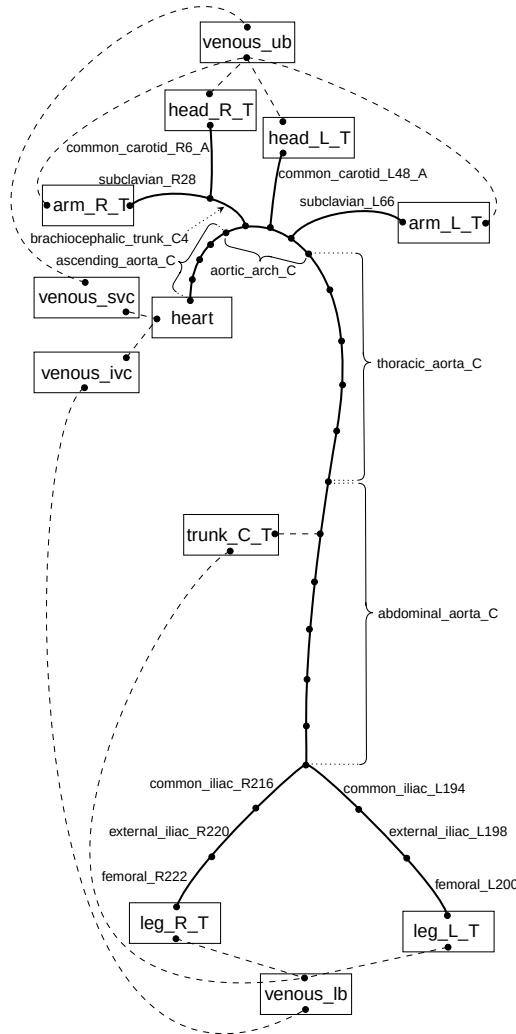

Figure 1: Schematic of the simple physiological CVS model.
- {CA\_user\_dir}/resources/simple\_physiological\_nonlinear\_visco\_vessel\_array.csv : This file defines the modules that are used and how they are connected together. Figure 1 shows the model that we will first generate.
**Figure 1.** A schematic representation of the Hernandez-Hernandez model. The components of the model include major ion channel currents shown in purple including the voltage-gated L-type calcium current ( $I_{Ca}$ ), nonselective cation current ( $I_{NSC}$ ), voltage-gated potassium currents ( $I_{Kv1.5}$  and  $I_{Kv2.1}$ ), and the large-conductance  $Ca^{2+}$ -sensitive potassium current ( $I_{BKCa}$ ). Currents from pumps and transporters are shown in red including the sodium/potassium pump current ( $I_{NaK}$ ), sodium/calcium exchanger current ( $I_{NCX}$ ), and plasma membrane ATPase current ( $I_{PMCA}$ ). Leak currents are indicated in green including the sodium leak current ( $I_{Na,b}$ ), potassium leak current ( $I_{K,b}$ ), and calcium leak current ( $I_{Ca,b}$ ). In addition, two currents in the sarcoplasmic reticulum are shown in orange: the sarcoplasmic reticulum Ca-ATPase current ( $I_{SERCA}$ ) and ryanodine receptor current ( $I_{RyR}$ ). Calcium compartments comprise three discrete regions including cytosol ( $[Ca]_i$ ), sarcoplasmic reticulum ( $[Ca]_{SR}$ ), and the junctional region ( $[Ca]_{Jun}$ ). Red stars (\*) indicate measured sex-specific differences in ionic currents.